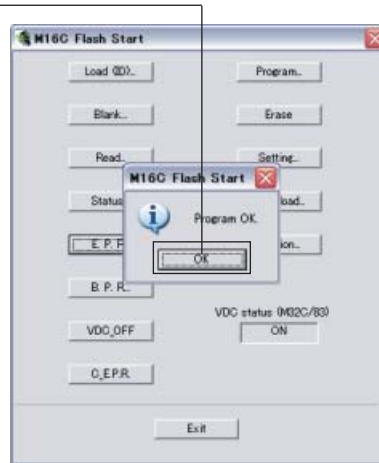

Fig. 5
7. When the program transmission is completed, the screen appears as shown below. (Fig. 5)
Click [OK] to end the procedure. (Fig. 5)